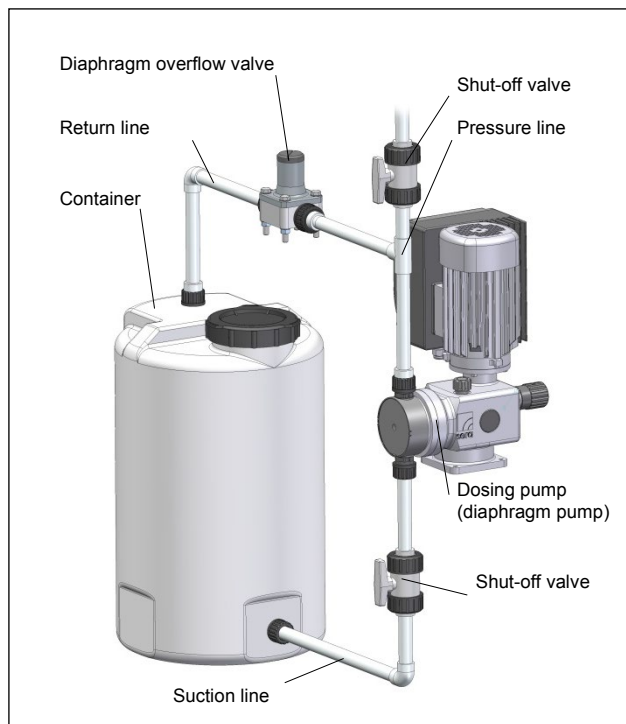

Fig. 23 System with (external) overflow valve
- install overflow valve (Fig. 23)